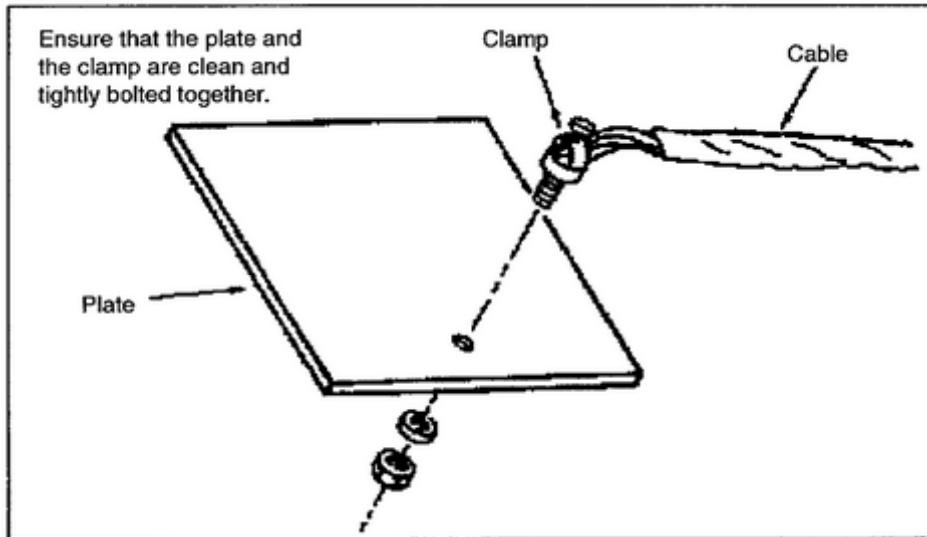

Figure 1-20. Conductor, clamp, and plate bolted together
c. The copper conductor, the clamp, and the plate are bolted together (Figure 1-20).